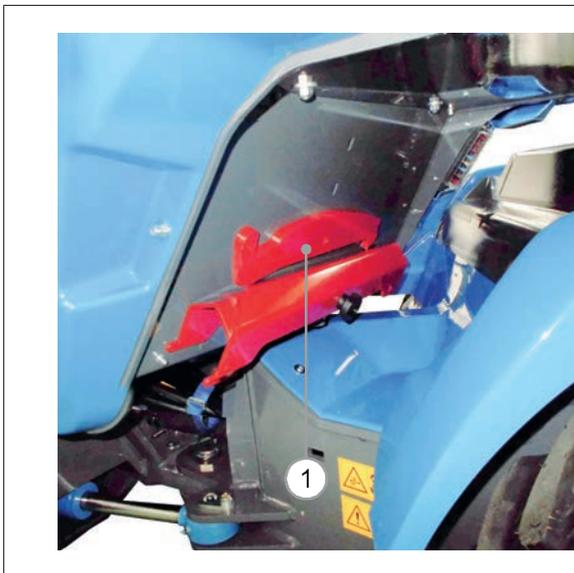

FIG. 21
- 3) Loosen the knob fixing the steering lock bracket (FIG. 21 - Ref. 1) and that of the locking of the lifting arm.